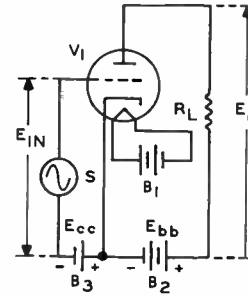

FIGURE 13
8. The amplifying action of the circuit of Figure 13 results in an output voltage E_O which